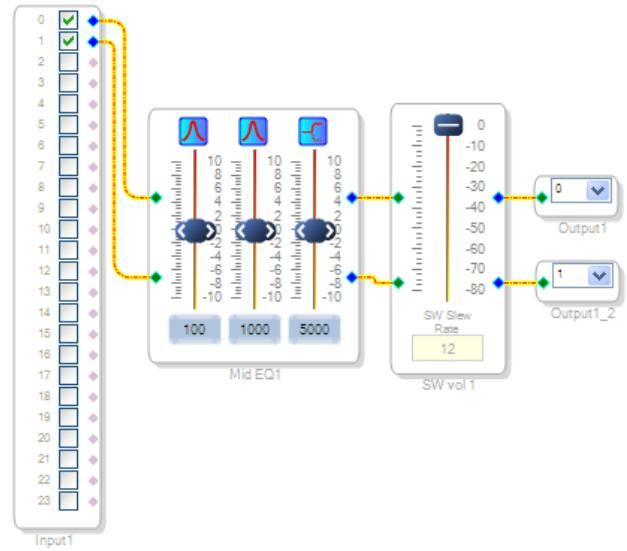

Figure 33. Completed Audio Path
19. For each cell, click the blue pin and drag a wire to the green pin to create an audio path from the input to the output for each channel, as shown in Figure 33.